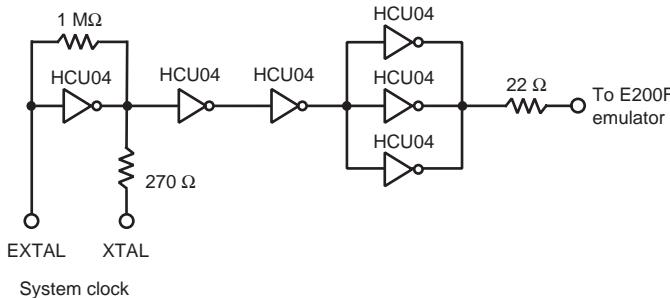

Figure 12 Clock Oscillator
- Figure 12 shows the clock oscillator on the user system interface board.